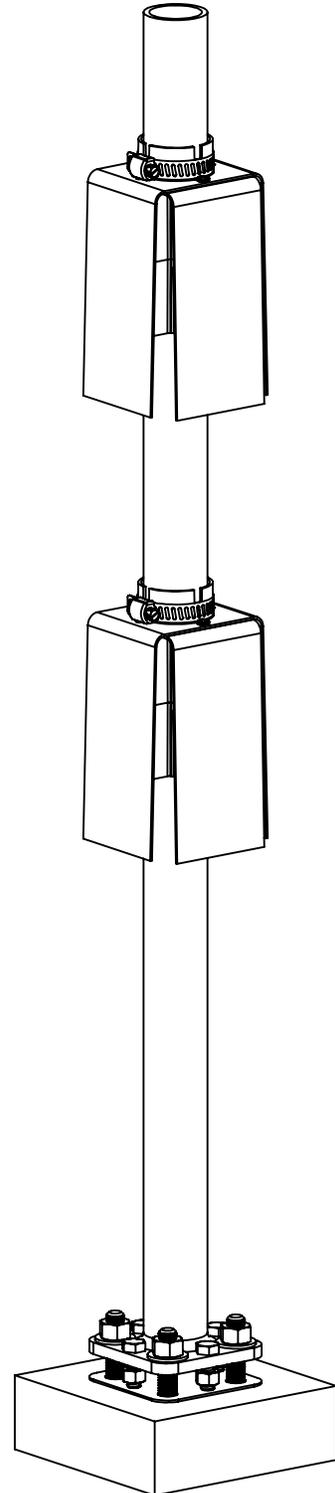

Figure 8
- 2) Install the bracket sets at the locations shown in Figure 8. This should be done by sliding each bracket set down onto the post mount, locating it at the appropriate height and orientation, and tightening the clamp until secured.